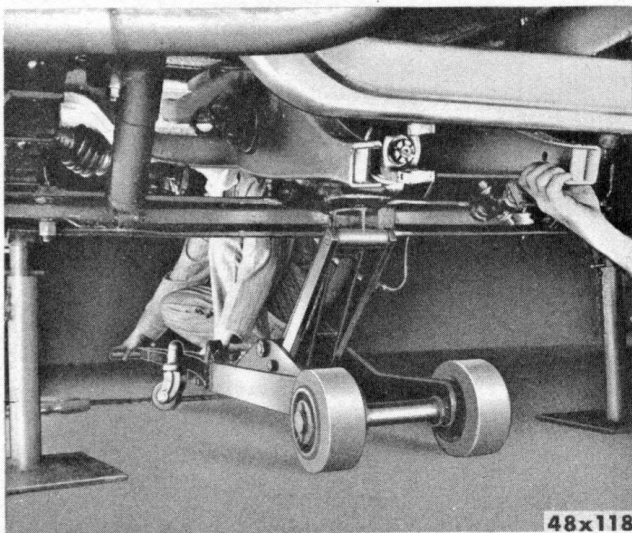

Fig. 95—Removing Carrier and Housing Assembly from Frame
- (5) Remove the differential and support arms as a unit, by sliding them to the rear and tilting the support arms down under the cross member (Fig. 95).